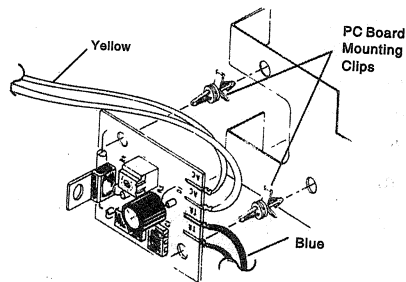

FIGURE 3
16. Review Figures 3 & 4 to assure correct mechanical installation and that all electrical connections are made in accordance with these instructions.